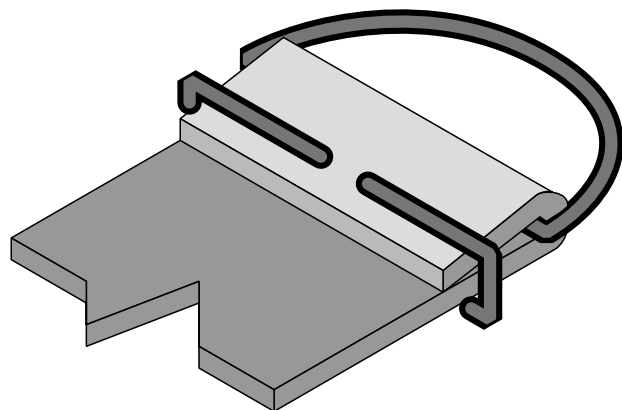

Figure 10: D rings for straps made from re-bar.
- 7) Now put the nails through the blown holes and weld a piece of nail across the ends of the nails as shown in Figure 10. Welding down inside the tube looks difficult but skilled workers can weld the pads in about one minute.